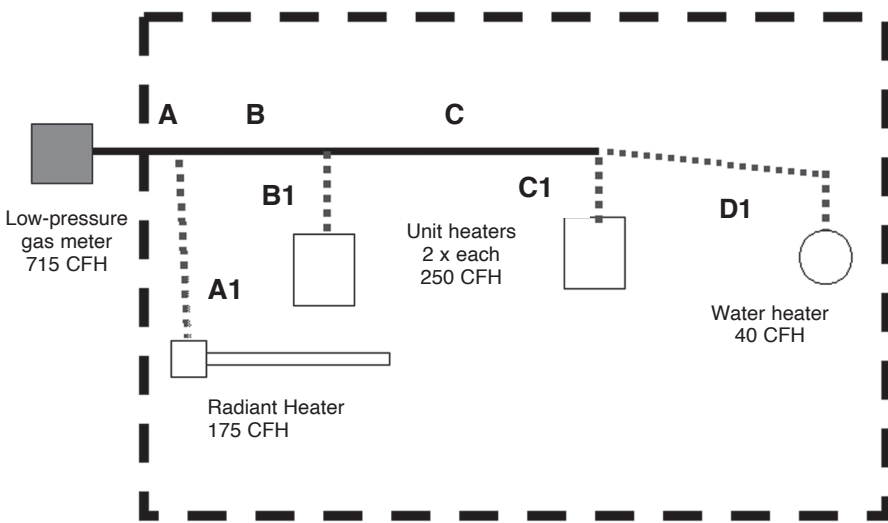

Figure: 3-5
1. The system shown in Figure 3-5 is a typical commercial building with 4 appliances. The gas pressure for this example is standard low pressure with 6-inch supply pressure and 0.5-inch pressure drop.